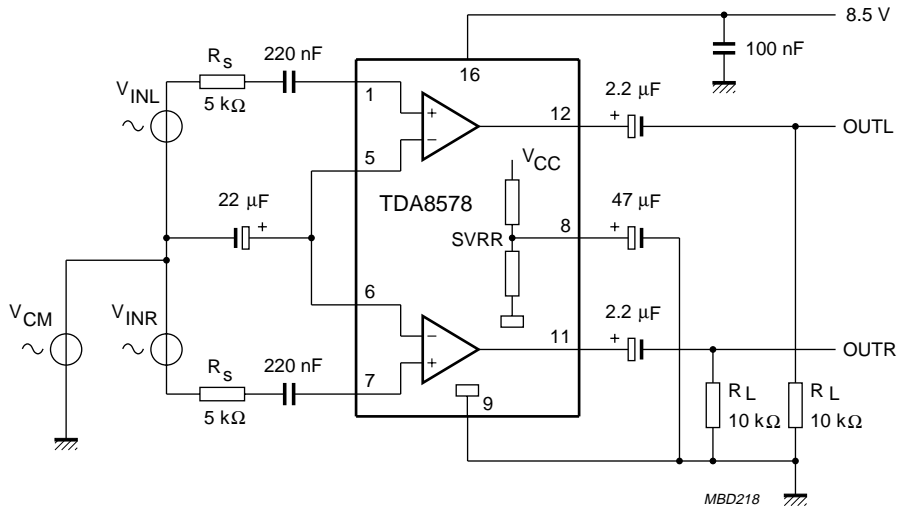

Fig.3 Test circuit.
$V_{CC} = 8.5\text{ V}$; $T_{amb} = 25\text{ °C}$; in accordance with test circuit (see Fig.3); unless otherwise specified.
$V_{CC} = 8.5 \text{ V}$; $f = 1 \text{ kHz}$; $T_{amb} = 25 \text{ }^\circ\text{C}$; in accordance with test circuit (see Fig.3); unless otherwise specified.
- The common-mode rejection ratio is measured at the output, with a voltage source of 1 V (RMS), in accordance with test circuit (see Fig.3), while V_{INL} and V_{INR} are short-circuited. Frequencies between 100 Hz and 100 kHz.